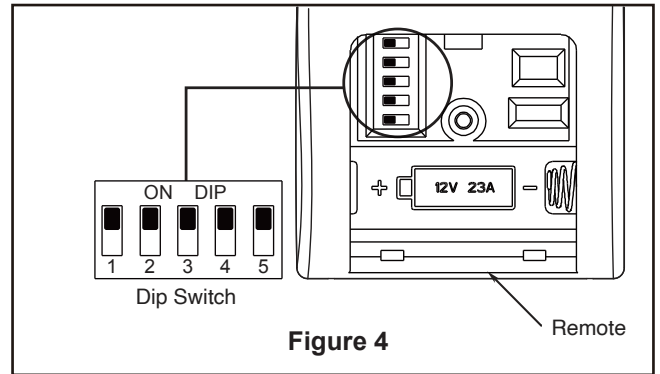

Figure 4
4. To set the remote code in the same positions as the receiver, use a small screwdriver or ball point pen (neither included) to slide dip switches firmly up or down. (Figure 4)